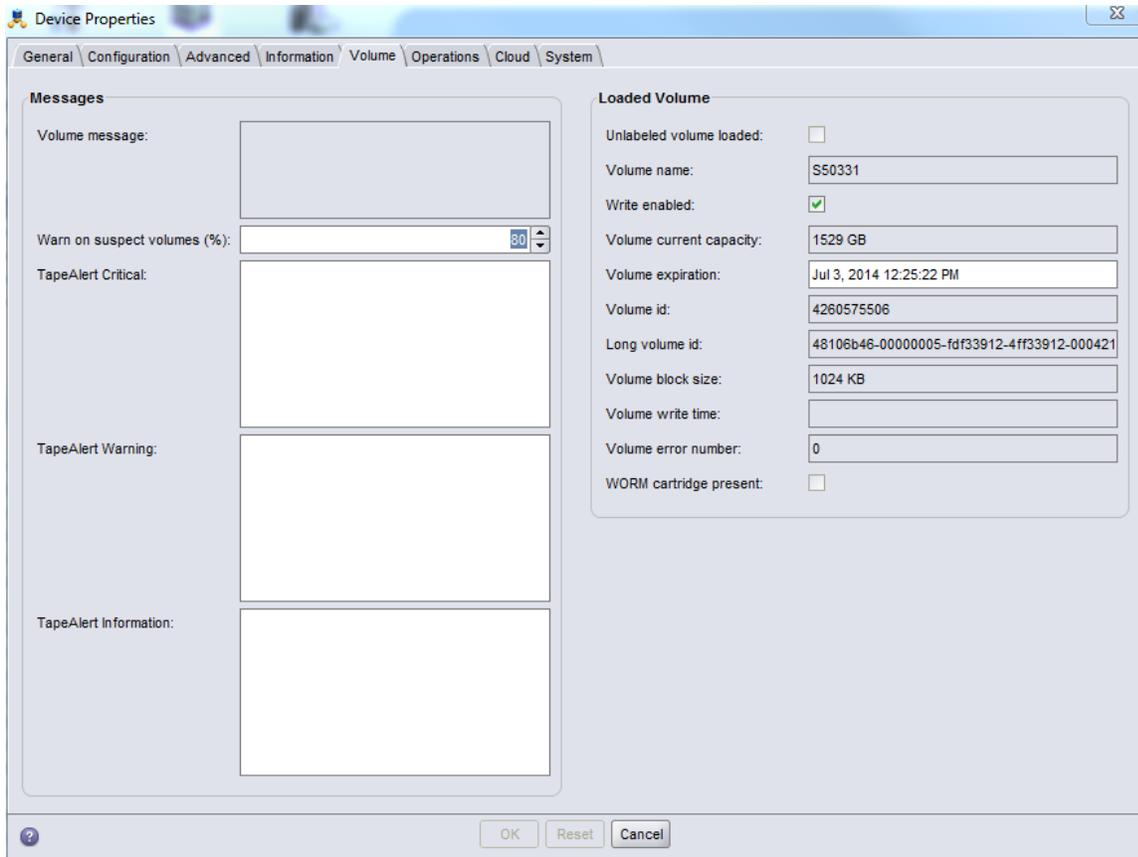

Figure 22: NetWorker Device Properties - Volume tab.
- 7) The block size of the tape will be listed in the right hand pane in the Volume block size field. (See figure 22):